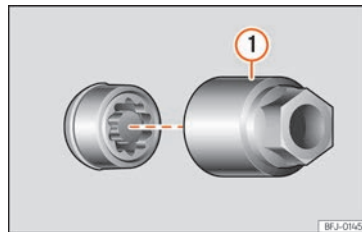

Fig. 37 Anti-theft wheel bolt with cap and adapter.
- Insert the special adapter » **Fig. 37 ①** (vehicle tools » **page 40**) onto the anti-theft wheel bolt and push it on as far as it will go.